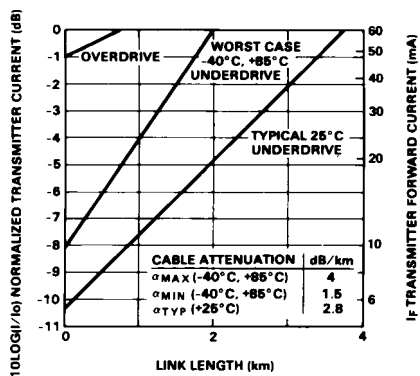

Figure 3. HFBR-1414/HFBR-2412 link design limits with 62.5/125 μm cable.
$= 400$ meters. From Figure 3 the drive current should be 15 mA . From the transmitter data $V_F = 1.5\text{ V (max.)}$ at $I_F = 15\text{ mA}$ as shown in Figure 9.
The curves in Figures 3, 4, and 5 are constructed assuming no in-line splice or any additional system loss. Should the link consists of any in-line splices, these curves can still be used to calculate link limits provided they are shifted by the additional system loss expressed in dB. For example, Figure 3 indicates that with 48 mA of transmitter drive current, a 1.75 km link distance is achievable with $62.5/125\ \mu\text{m}$ fiber which has a maximum attenuation of 4 dB/km . With 2 dB of additional system loss, a 1.25 km link distance is still achievable.
2. Typical performance of circuits shown in Figure 1 and Figure 3 of AN-1038 (see applications support section).
2. Typical performance of circuits shown in Figure 1 and Figure 3 of AN-1065 (see applications support section).